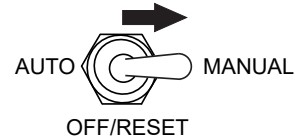

Figure 42. Auto-Off/Reset-Manual Switch (Manual Position)
1. Place the **Auto-Off/Reset-Manual Switch** in the **MANUAL** position to start the engine (Figure 42).